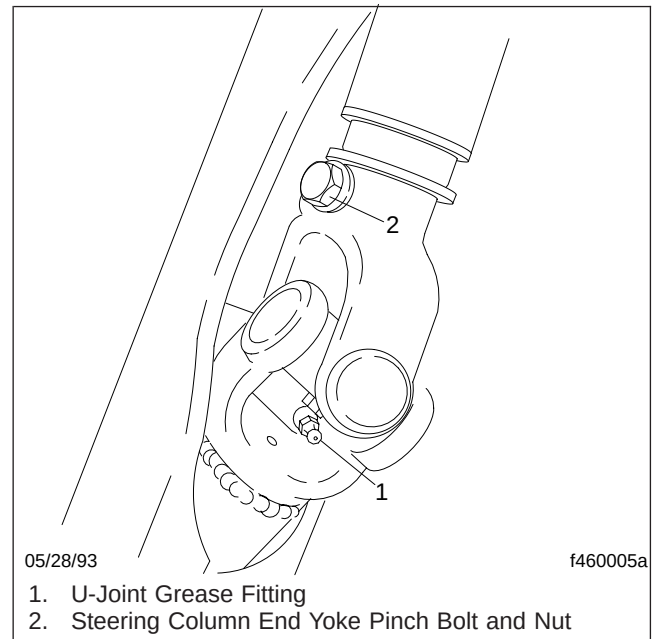
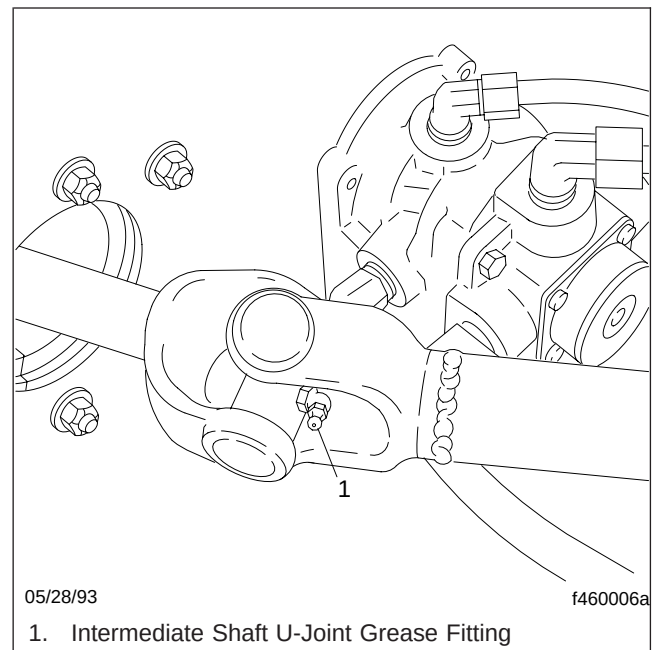
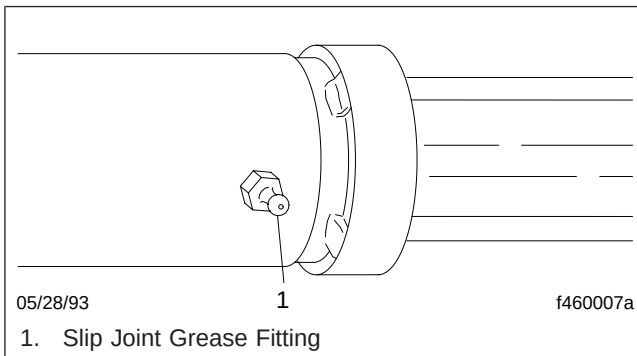
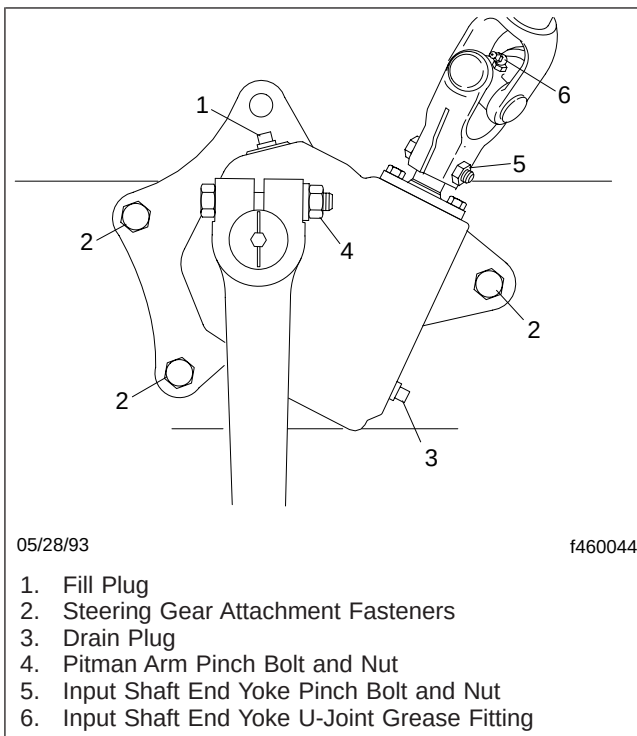

Fig. 1, Steering Driveline Upper Universal Joint
Fig. 2, Steering Driveline Intermediate Universal Joint
Fig. 3, Steering Driveline Slip Joint
Fig. 4, TRW Model 503 Manual Steering Gear
Wipe the steering driveline grease fittings clean. See **Fig. 1**, **Fig. 2**, **Fig. 3**, and **Fig. 4**. Using a pressure gun, apply multipurpose chassis grease sparingly to the universal joints and slip-joint splines. For an FLA or an FLB, lubricate the slip-joint splines only when the cab is in the operating position. Turn the front wheels to the left for better access to the driveline.
1. Remove the fill plug from the top of the steering gear housing. See **Fig. 4**.
1. While the steering gear lubricant is still warm, remove the steering gear drain plug and drain the old lubricant. Lubricant will drain faster if the fill plug is also removed. See **Fig. 4**. After all lu-